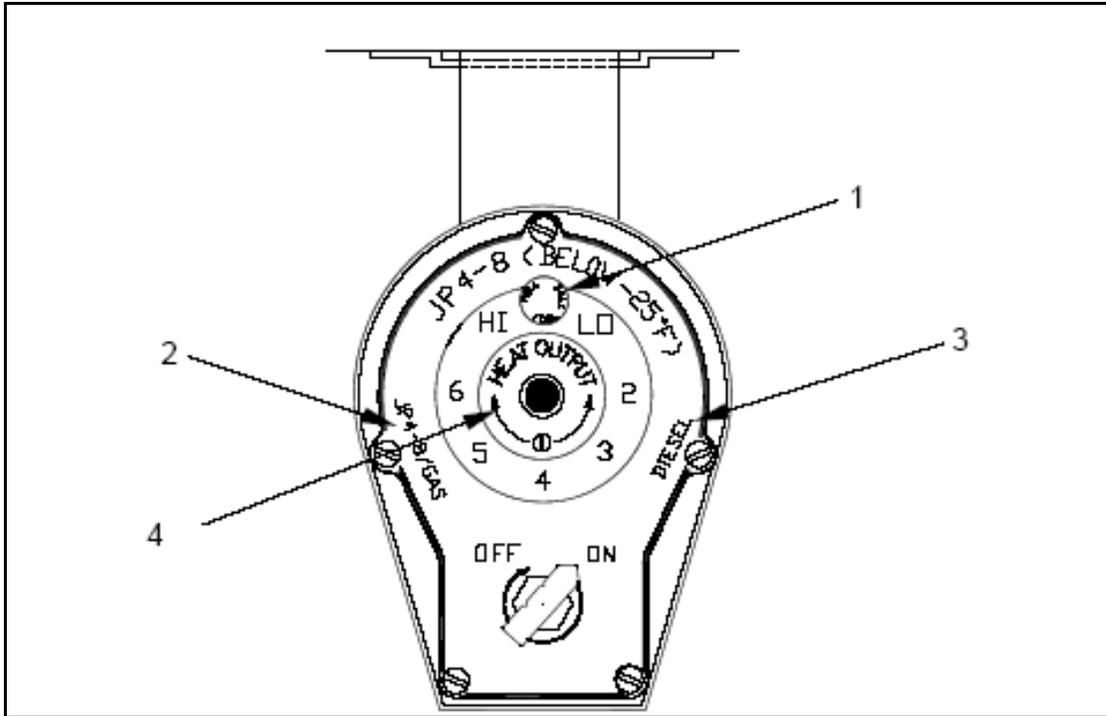

Figure 16
**NOTE:** Viscosity of liquid fuel is not consistent at all times and locations. If the heater appears to be overfiring at high settings or underfiring at low settings, adjust the fuel flow adjustment knob (4) counterclockwise or clockwise until the flame is clear, no smoke or soot is observed, and the pulsing stops. Figure 16